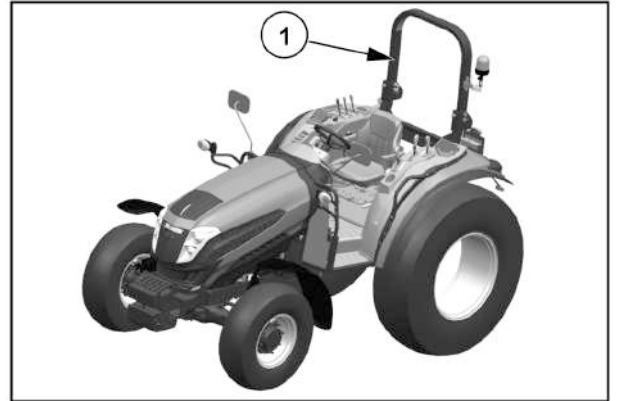

Fig. 2.14
A Safety frame (A) and seat belt is fitted as standard equipment to the platform tractor at the time of factory assembly. If the safety frame was deleted by the original purchaser or has been removed, it is recommended that you equip your tractor with a Safety frame and a seat belt. Safety frames are effective in reducing injuries during overturn accidents See fig.2.14